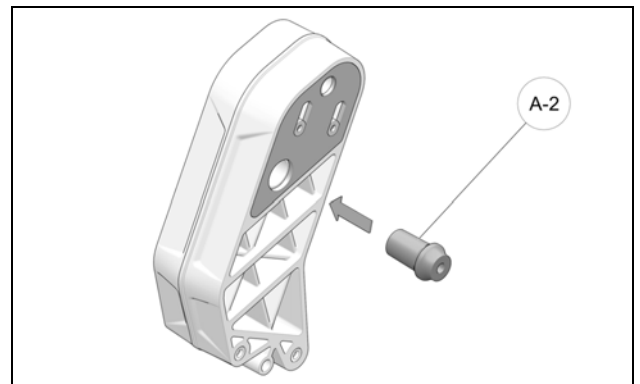

Figure 4
- Insert T-Bushing (A-2) in the Ski Upright's lower left hole. See Figure 4.